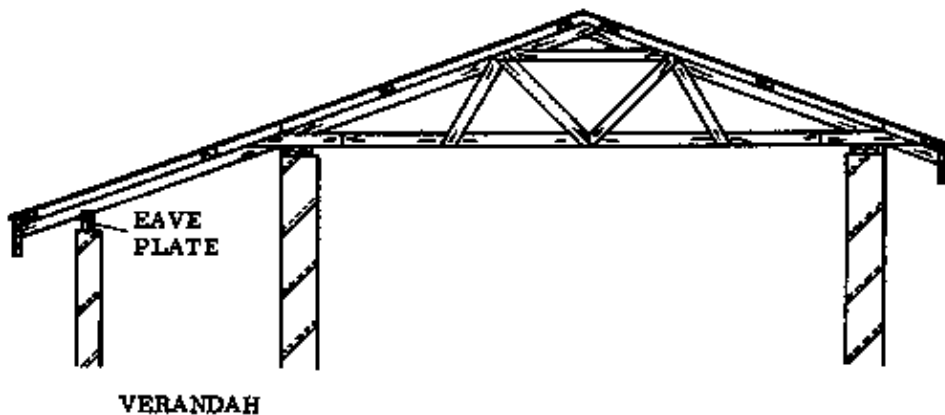

Fig. 2 EXTENDING THE RAFTERS
- By extending the rafters to cover the verandah (Fig. 2).
– EXTENDING THE RAFTERS: The overhanging rafters cover the verandah. Note that the building must be high enough so that the lower edge of the verandah is not inconveniently low (Fig. 2). This construction can be used with either an ordinary pent roof or a parapetted pent roof as well as with a gable roof.